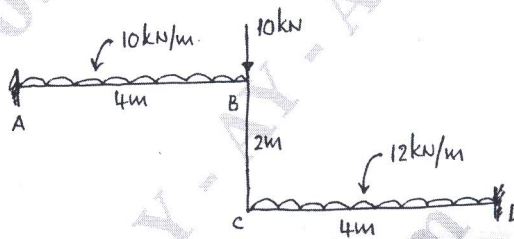

Fig.Q6
- 6 Analyze the frame shown in Fig. Q6 by displacement transformation matrix method. Draw BMD.